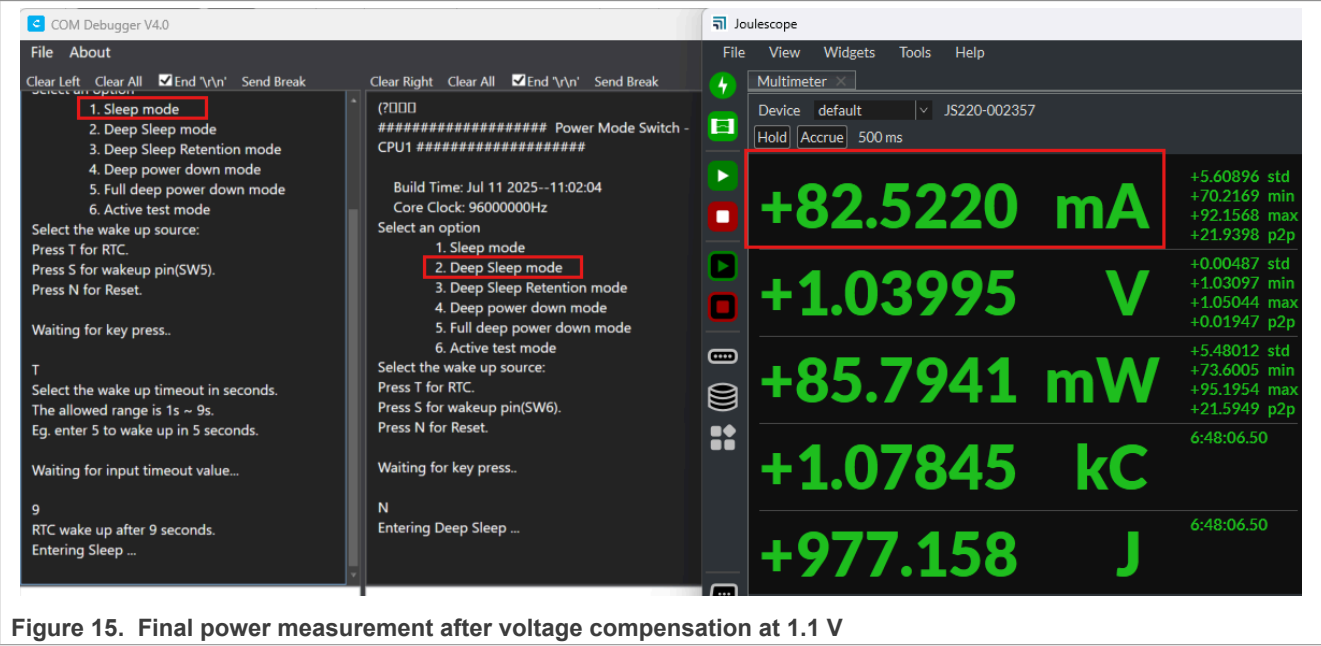

Figure 15. Final power measurement after voltage compensation at 1.1 V
13. Repeat steps List item, List item, and List item to continue measuring power consumption. The updated power reading for **VDD2** under the new voltage and frequency settings is shown in Figure 15.